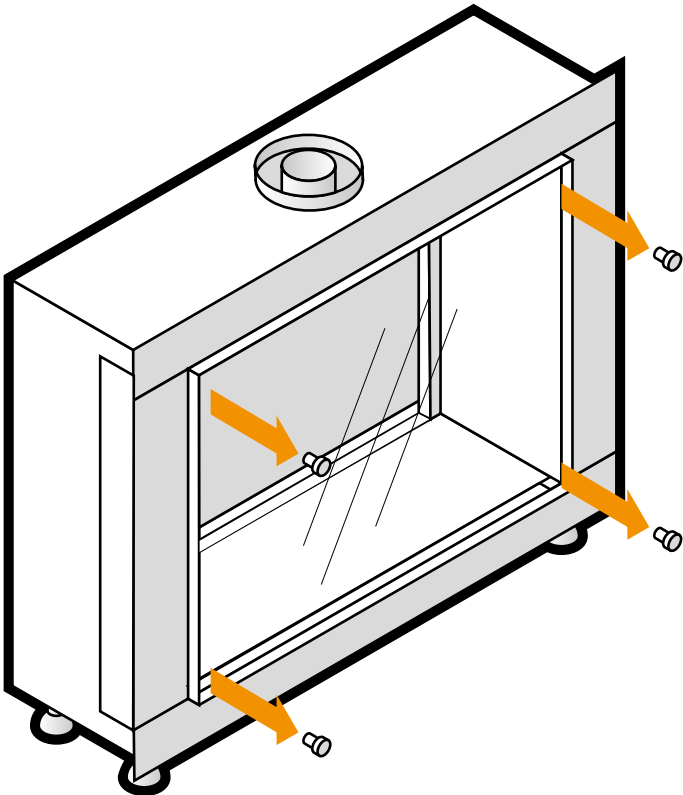

Figure 10-4: Remove screws
- Remove the glass clamps by loosening the screws. (See Figure 10-4)